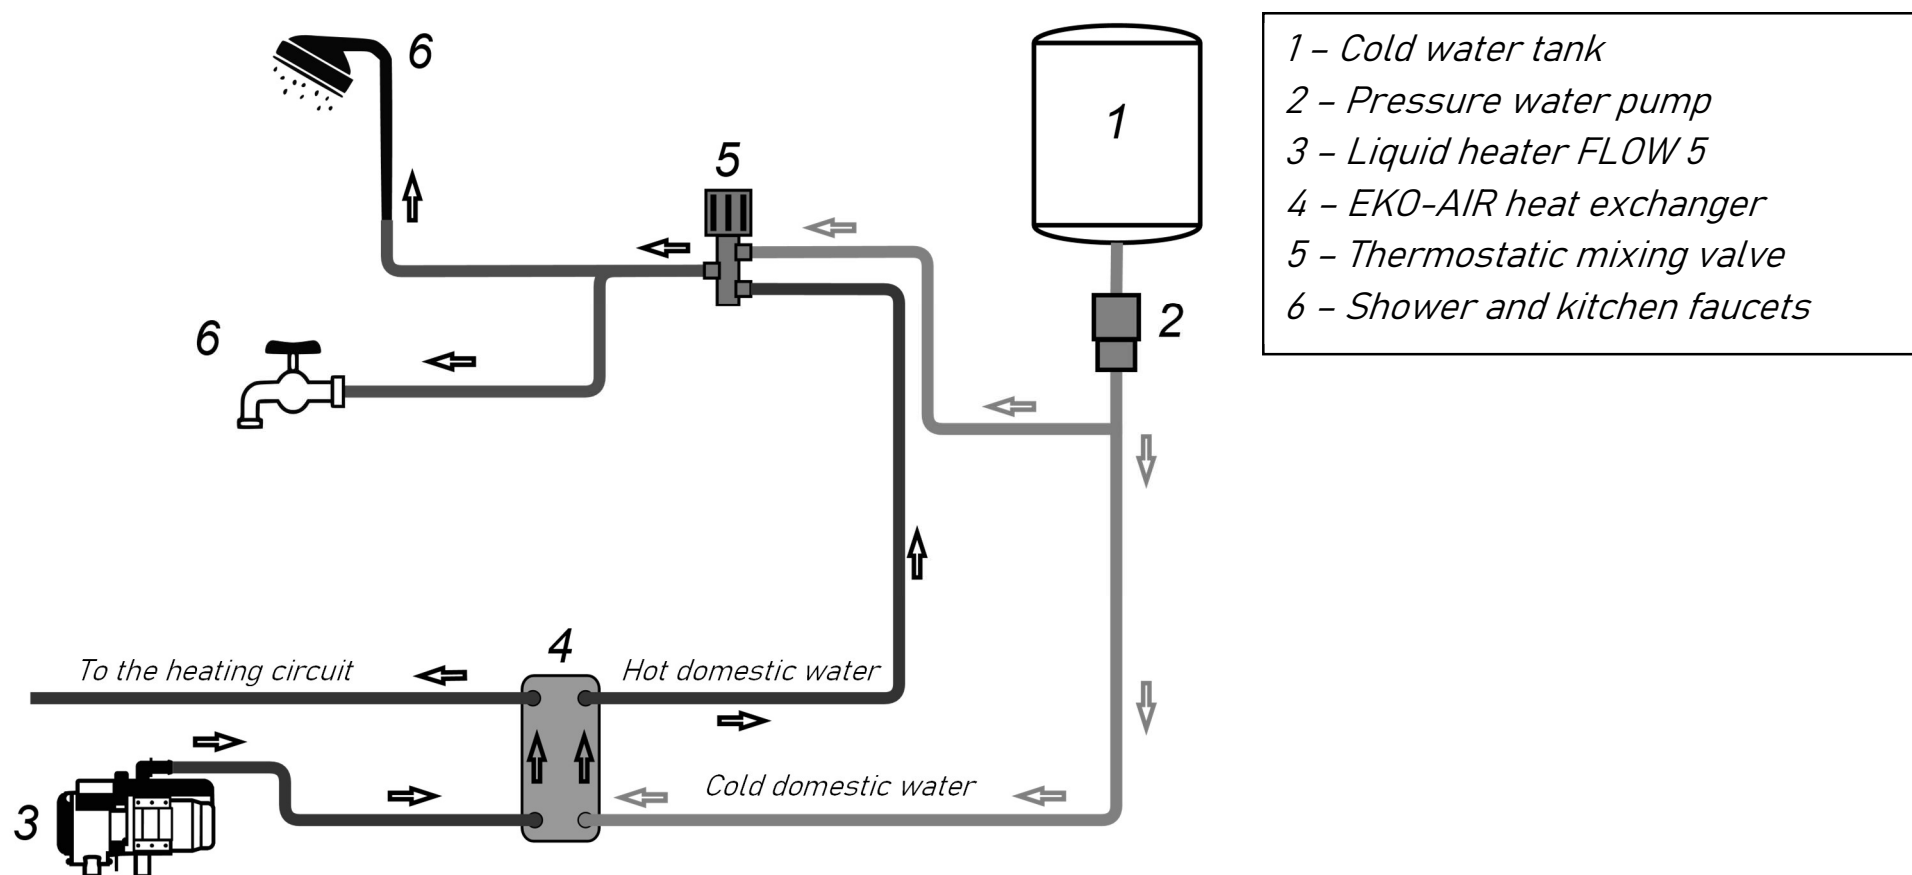

Figure 4 – Connection diagram for water heating.
Example of connection and working principle is shown in Figure 4.
According to the diagram (Figure 4) cold water from the water tank (1) is being pumped to the EKO-AIR heat exchanger (4) and thermostatic mixing valve (5) by a pressure pump (2). Then the water heated by the heat exchanger (4) enters the mixing valve (5), after which water at a set temperature flows either to the faucet (6).